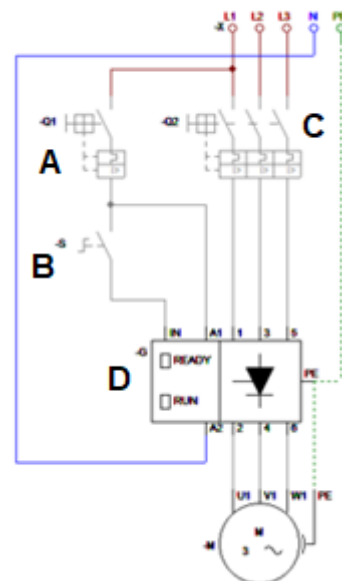

Figure 2
5. [2] Refer to the circuit in Figure 2, to control a three-phase induction motor with a soft-starter.